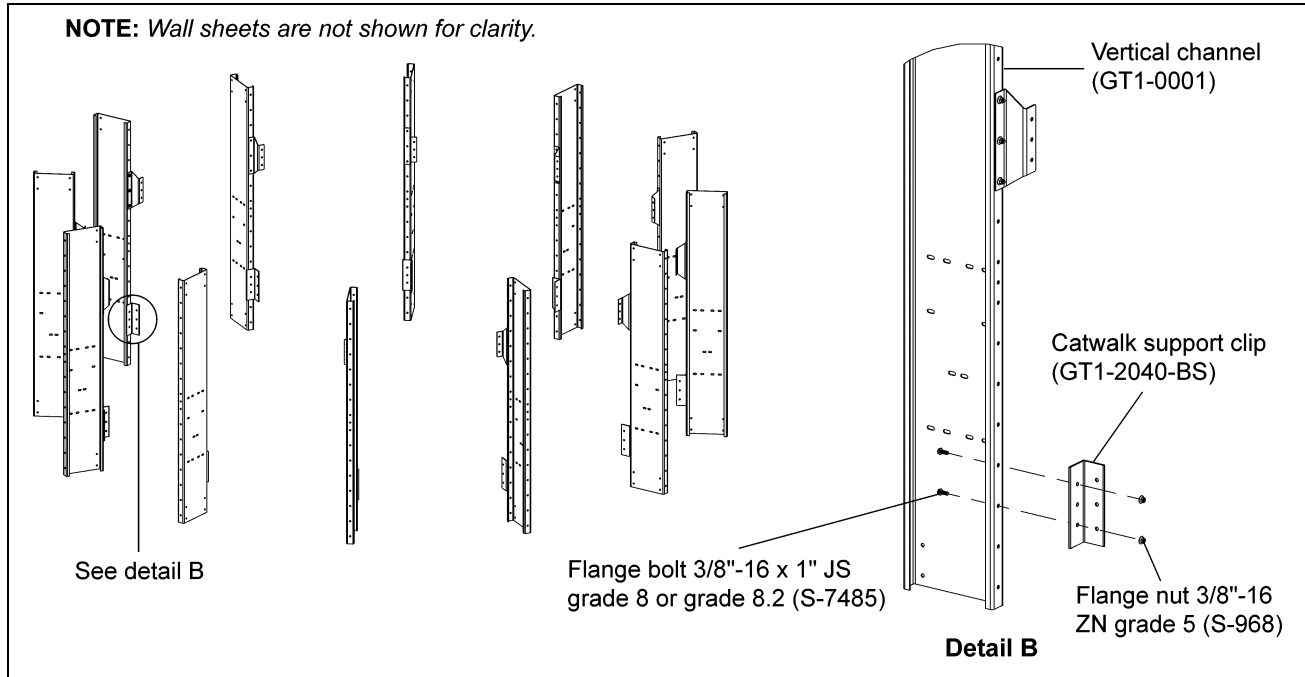

Figure 5B
1. Install catwalk support clips (GT1-2040-BS) to vertical channels (GT1-0001). Support clip can be installed on each vertical channel as the inner wall sheets are installed using 3/8"-16 x 1" JS grade 8 or grade 8.2 bolts (S-7485) and 3/8"-16 ZN grade 5 nuts (S-968). (See Figure 5B.)